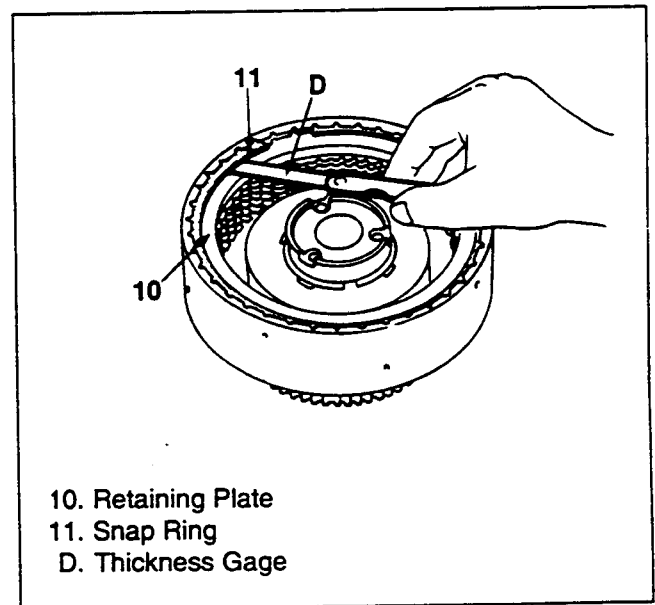

Figure 142. Clearance Check
5. After operation check, measure the clearance between the retaining plate and the snap ring with a thickness gage. (figure 142)